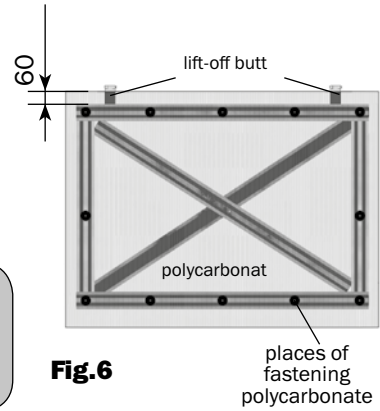

Fig.6
- 6.** A polycarbonate piece tape with scotch (close the cells) and screw it to the frame of the vent sash with the screws M5*35 and nuts M5 (**fig.6**)